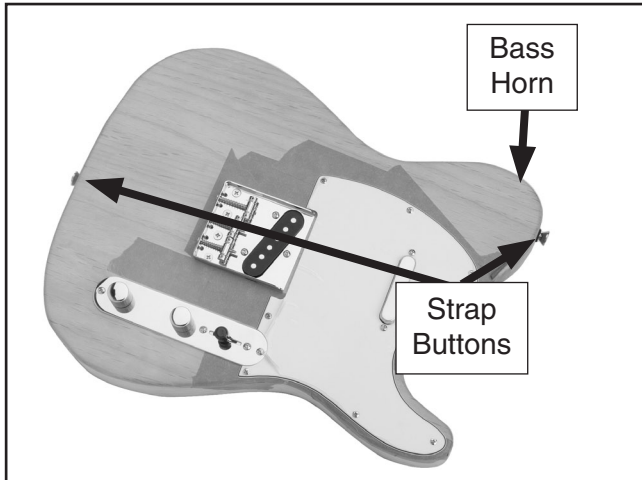

Figure 24. Strap buttons.
The strap buttons are positioned on the guitar as shown in **Figure 24**.
1. Using a 1/16" drill bit, drill 3/4" deep holes at the end of the guitar—on the center line—and on the bass horn (**Figure 24**).